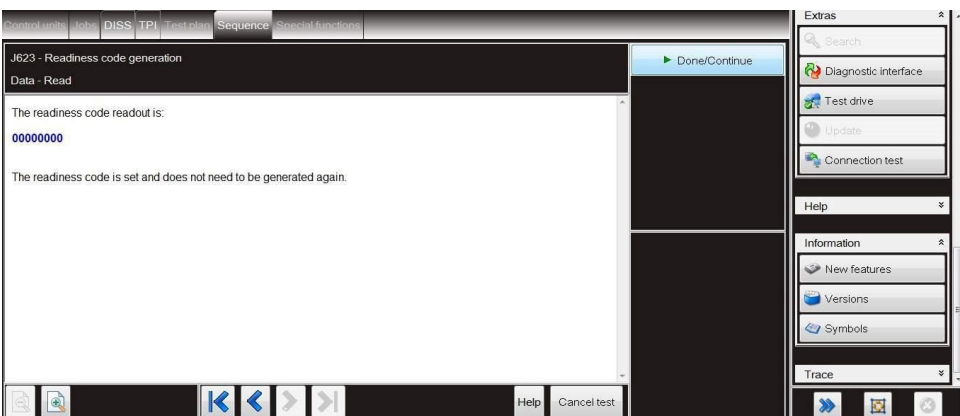

Figure 13
15. At this point check and confirm the actual readiness code, the readiness code MUST be as shown in Figure 13